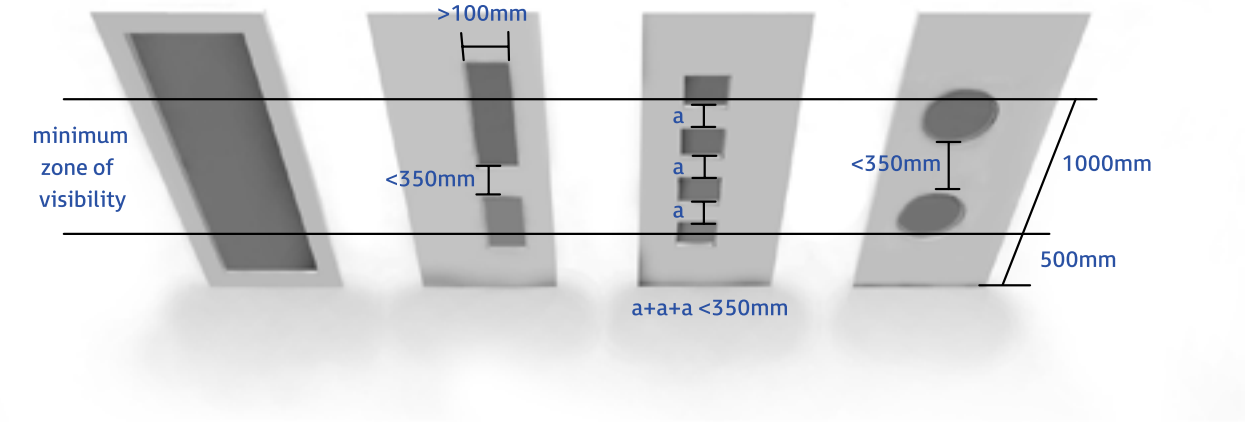

Figure 45 / Door vision panels
- vision panels towards the leading edge of the door to provide, as a minimum, the zone or zones of visibility shown in Figure 45.